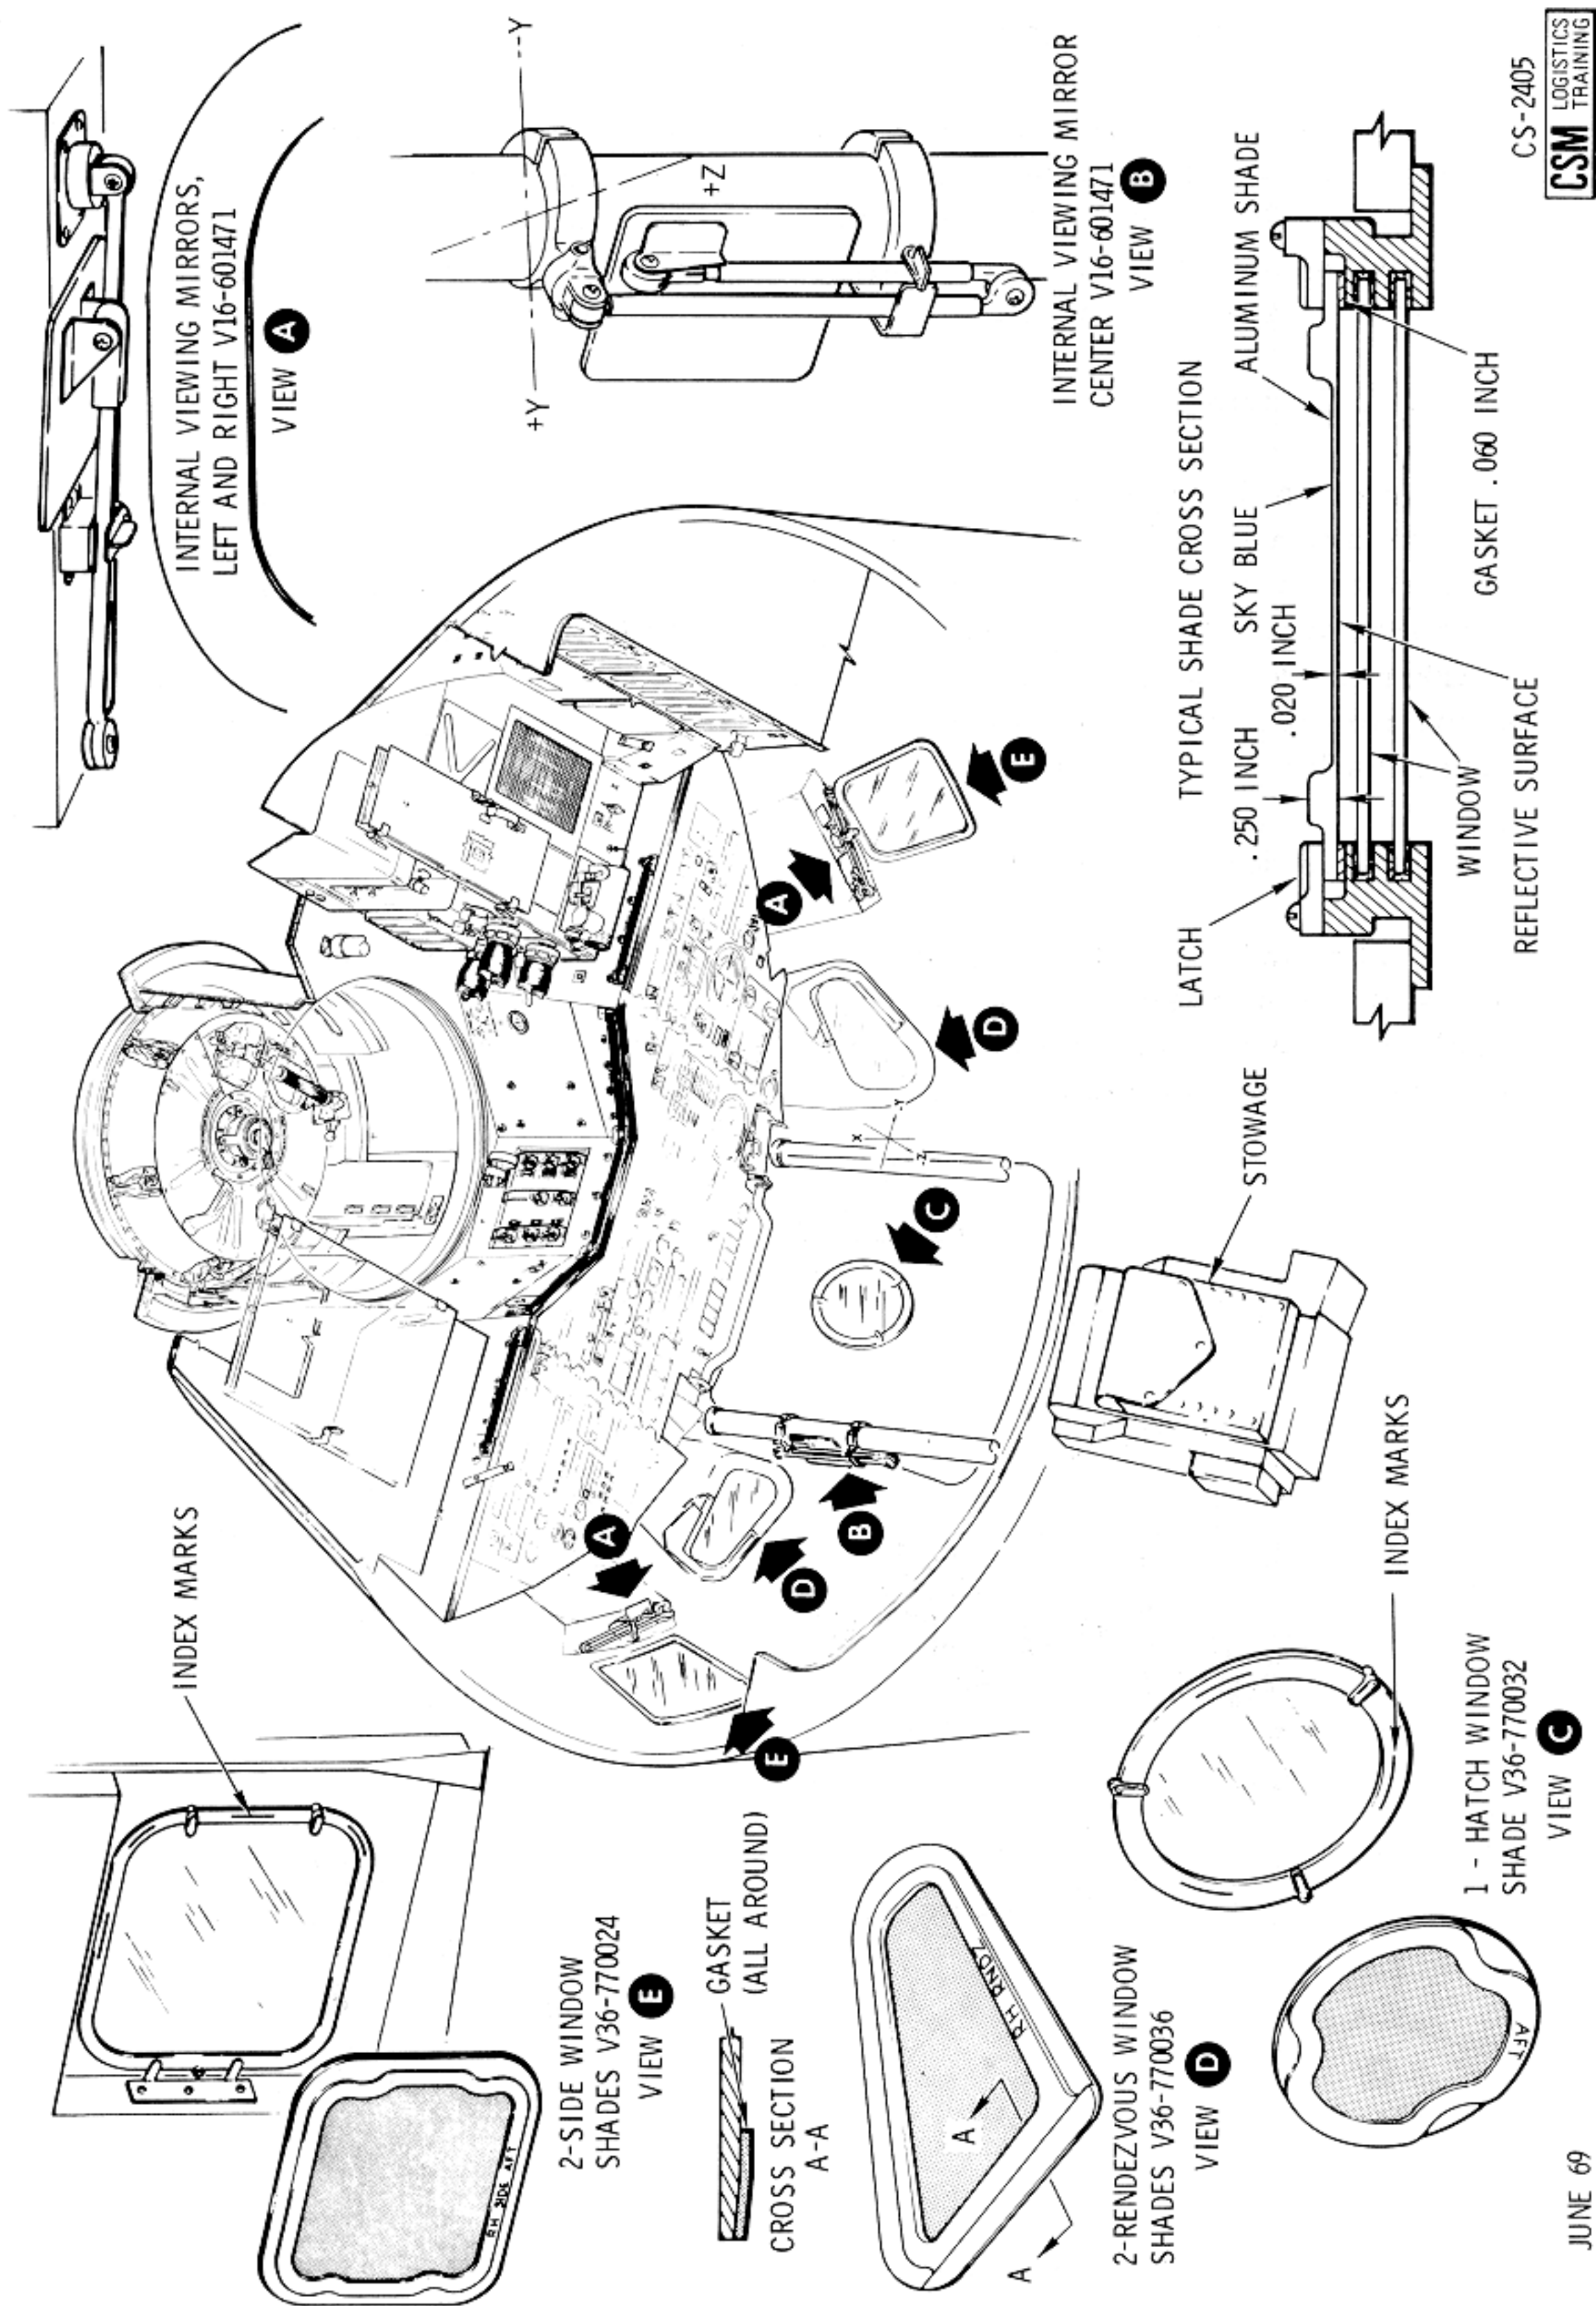

Figure 2.12-18. Window Shades and Mirrors
2.12.4.1.1 Window Shades (Figure 2.12-18).
The CSM has five windows: two triangular-shaped rendezvous windows, two square-shaped side windows, and a hatch window. Periodically, the light coming through these windows has to be restricted. This is accomplished by window shades (figure 2.12-18).